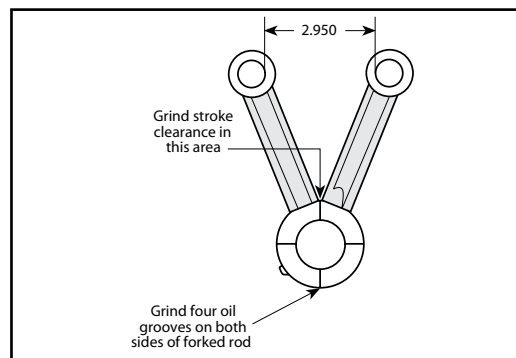

Figure 1
- To insure adequate oil on sides of rods and matching thrust surfaces of flywheels, S&S recommends that four grooves be ground on each side of both front and rear connecting rods. **See Figure 1, below.** Make these grooves .020" to .030" deep and .030" to .040" wide and should be ground 90° from each other. After making grooves, remove all sharp edges and burrs with emery cloth.
- With rods assembled, measure distance between rods at closest points in wristpin holes. If measurement exceeds 2.950" as shown in **Figure 1**, grind female rod at points where male rod makes contact to achieve sufficient clearance.